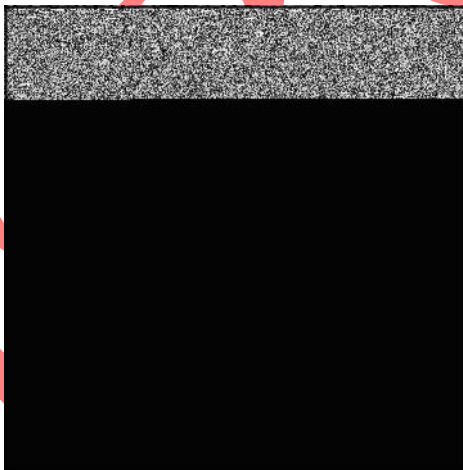

Figure 37
1. Remove the fixed main jet (bowl nut) (A, Figure 37) and fiber washer (B), then remove the fuel bowl (C) and the bowl gasket (D) from the carburetor body. Discard the fiber washer and the gasket.
2. Remove the float hinge pin (E), float (F), and inlet needle (G). Discard the hinge pin, and inlet needle.